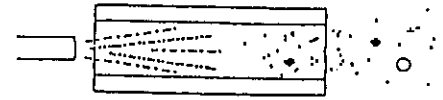

Fig. 4
- (3) Air-flush the pipe to remove any foreign matter or chippings inside the pipe before piping. (Fig. 4)